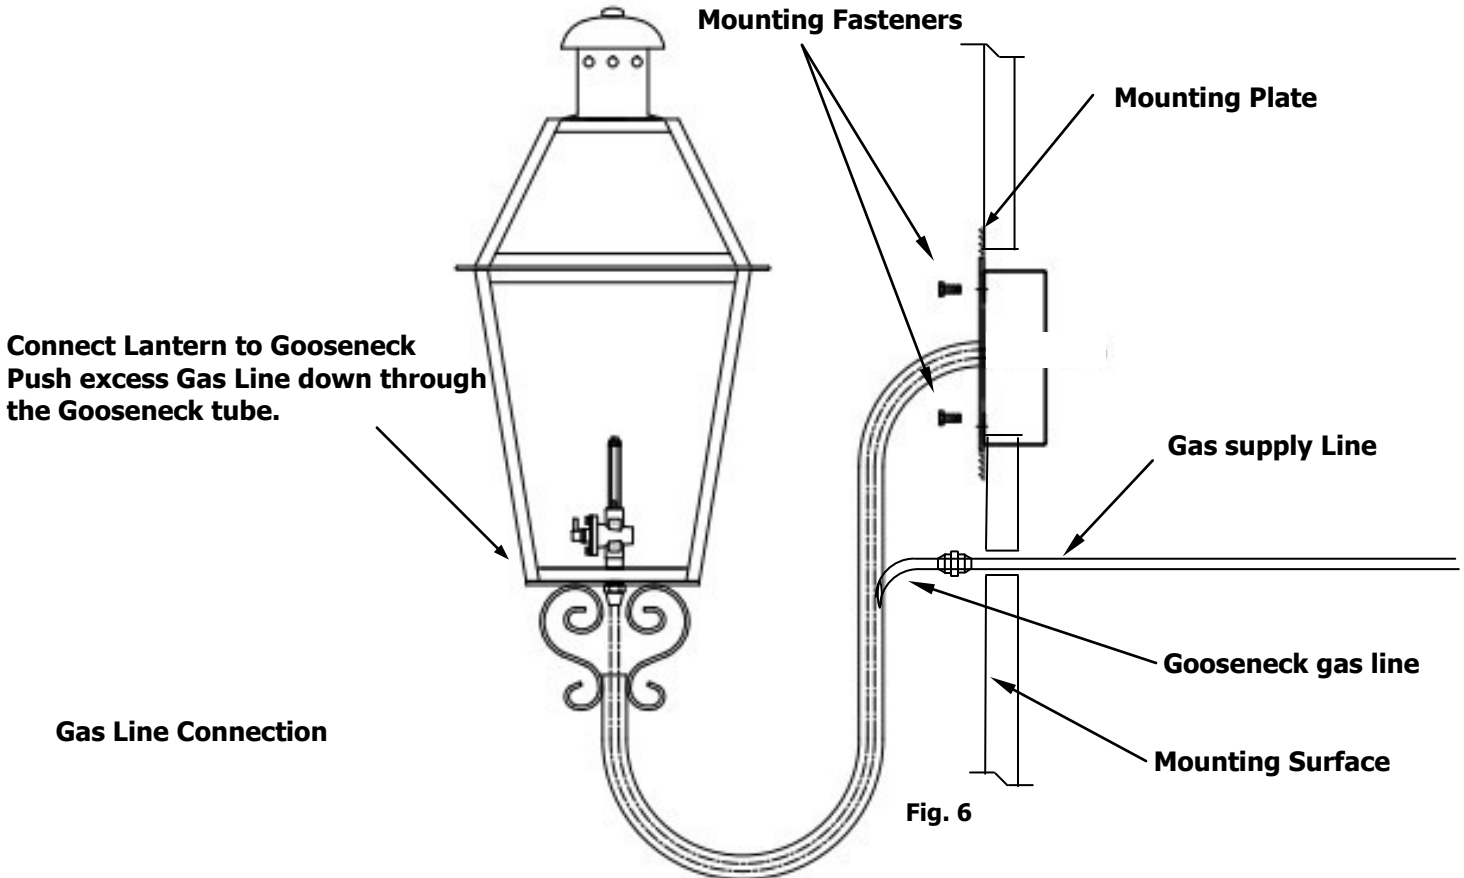

Fig. 6
7. Fasten the lantern onto the Gooseneck using the Bolts and nuts supplied. Figure 6.